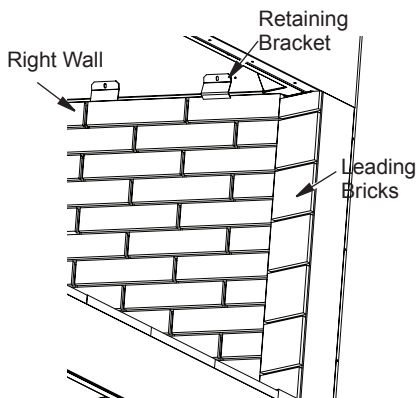

Figure 28 - Installing Side Walls
6. Secure the firebrick wall using 2 of the retainers provided. The bracket will slip underneath the metal lip on the top of the wall and screw into the inner dome of the fireplace (Figure 28, page 19).